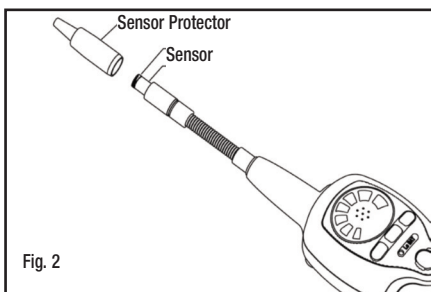

Fig. 2
- (1) Remove cone cap cover from the tip of flexible probe.
- (2) Pull out the old sensor and insert the new sensor into the plug (see below fig. 2).
- (3) Seal the cap cover over the plug.